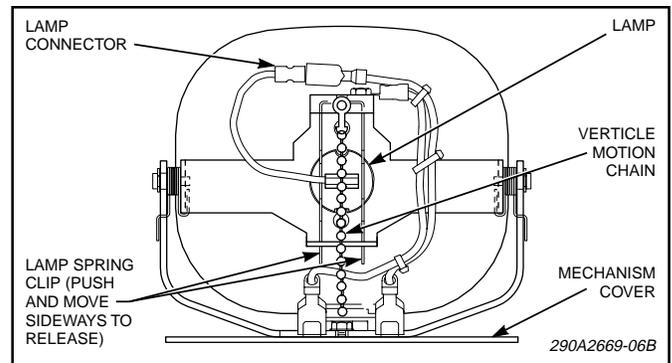

Figure 4.
B. *Lamp Replacement (see figure 4).*